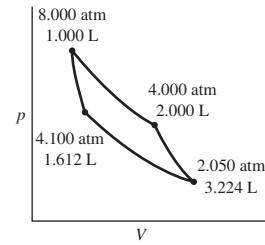

FIGURE 19.23 Problem 42
42. A 0.20-mol sample of an ideal gas goes through the Carnot cycle of Fig. 19.23. Calculate (a) the heat Q_h absorbed, (b) the heat Q_c